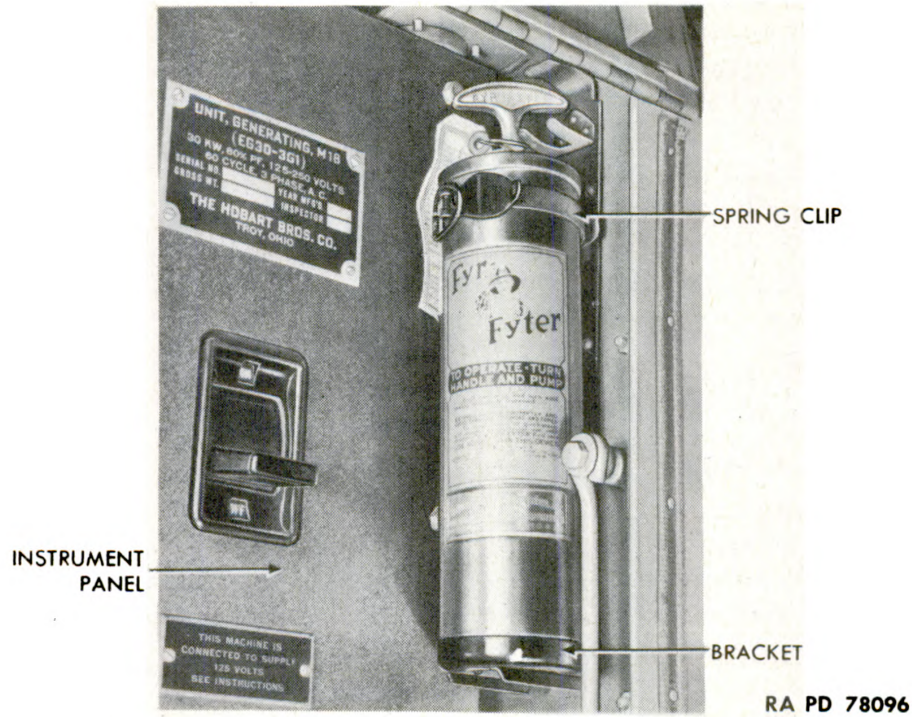

Figure 12 – Fire Extinguisher – Installed
a. **Location.** The fire extinguisher, filled with a CARBON TETRACHLORIDE solution, is located to the right of the instrument panel (fig. 12).